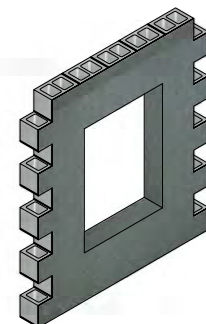

Figure 16
8. Saturate MasterSeal AWB 970 FIB with MasterSeal AWB 660/MasterSeal AWB 665/MasterSeal AWB 660 I. This can be done when applying MasterSeal AWB 660/MasterSeal AWB 665/MasterSeal AWB 660 I to the main body of the wall. Ensure that no pink coloration from the previous application of MasterSeal AWB 950 P is visible – the window opening shall be entirely covered with MasterSeal AWB 660/MasterSeal AWB 665/MasterSeal AWB 660 I. (See Figure 16).